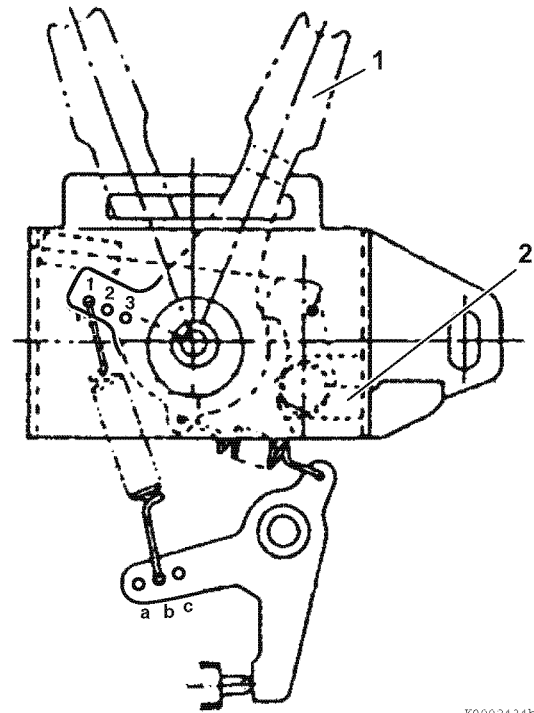

Figure 5-10
3. On constant speed engines, check that the speed control lever (1, **Figure 5-10**) locks into the full speed position when advanced and returns to the stop position when the stop lever (2, **Figure 5-10**) is actuated.